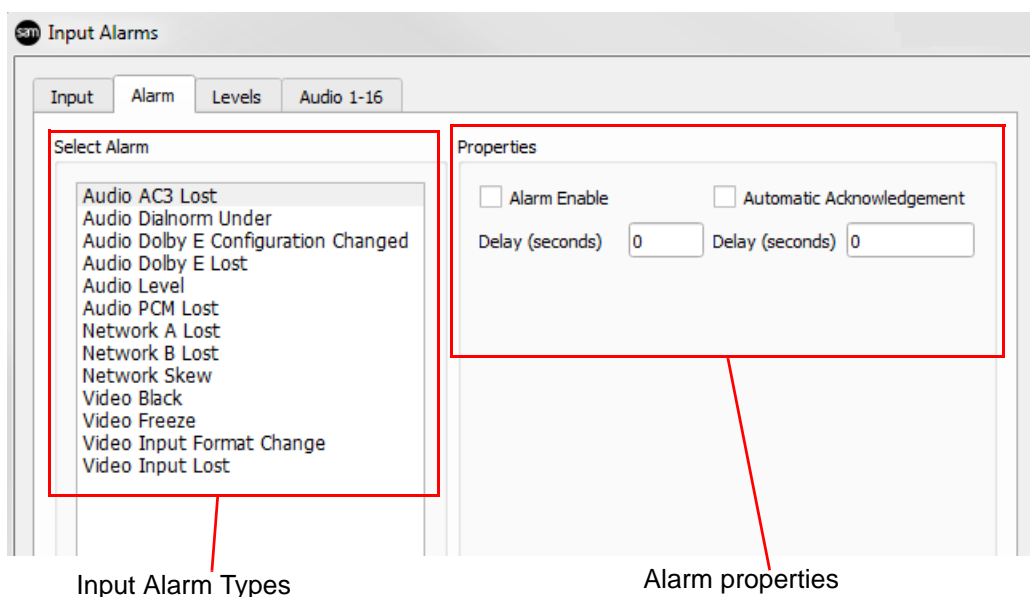

Figure 92 Orbit Alarm tab.
3. Select the **Alarm** tab. See Figure 92.
Figure 92 lists the input alarm types.